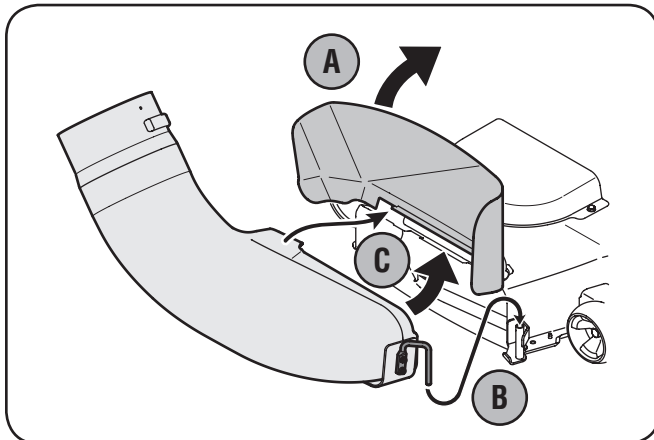

Figure 4-20
3. Raise the chute deflector (A in Figure 4-20) on the deck and hold it while you position the discharge chute over the chute opening.
4. Insert the hinge pin of the discharge chute into the tube on the chute stop bracket. See B in Figure 4-20.
5. Rotate the chute around the deck so that its front edge fits snugly into the deck opening. Lower the chute deflector slowly (C in Figure 4-20).